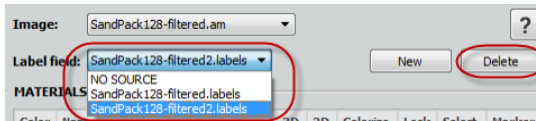

Figure 6.67: Deleting current label or switching to another one.
1. When not satisfied by result, you may easily cancel the watershed step by deleting the current label: this will take you back to the original marker labels, that you could then adjust or complete before applying again the watershed tool (see Figure 6.67).